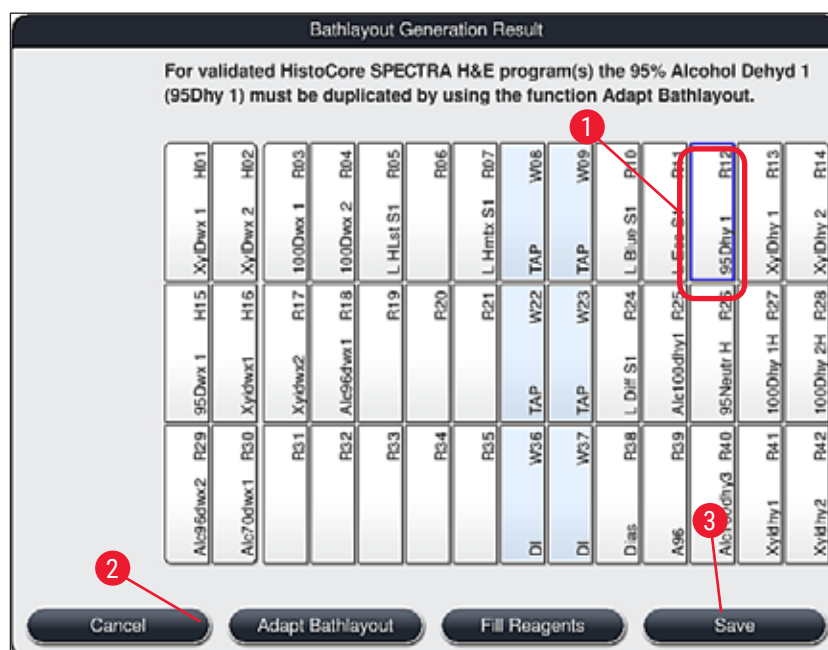

Fig. 52
- After the software calculates the bathlayout using the prioritized programs, the user obtains an overview of the results displayed on the screen (→ "Fig. 52").
- If no Leica programs have been integrated into the bathlayout, the display (→ "Fig. 52") deviates from the one shown (not pictured). In this case, the reagents can be filled as described in (→ P. 81 – Filling the reagents).